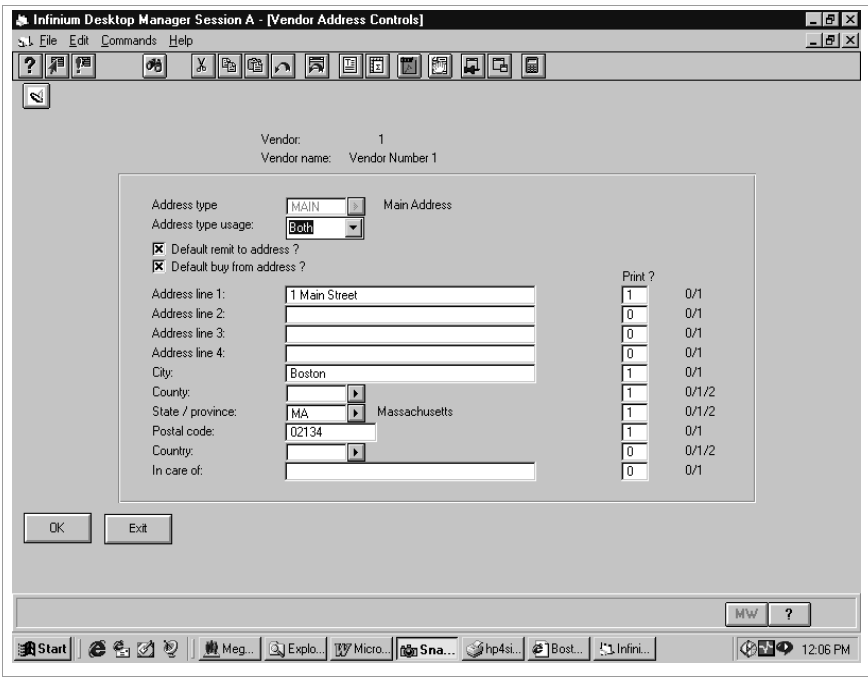

Figure 3-30: Vendor Address Controls screen 1
- Press Enter. The system updates the Base Data Controls screen and continues to the Vendor Address Controls screen illustrated in Figure 3-30.
The system automatically displays the screen shown in Figure 3-30 when you create vendor controls. You can create multiple addresses for a vendor. Your user security profile determines which address types you can create.